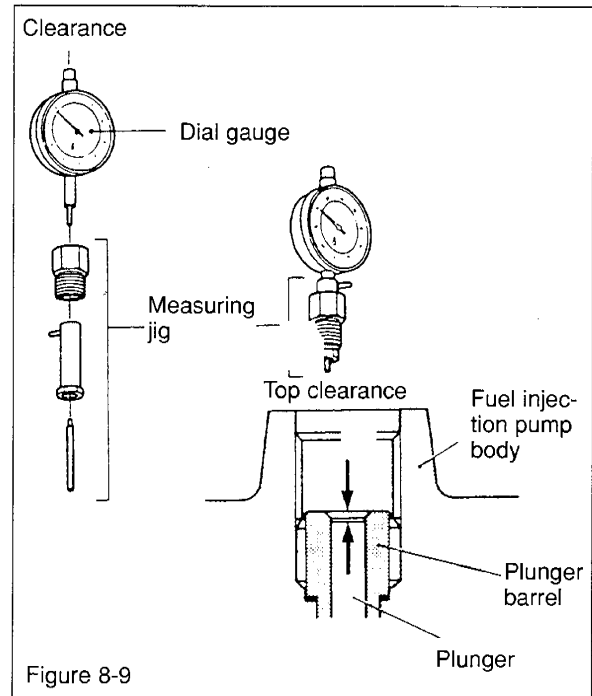

Figure 8-9
2. Set up measuring jig and install dial gauge. See Figures 8-9 & 8-10.